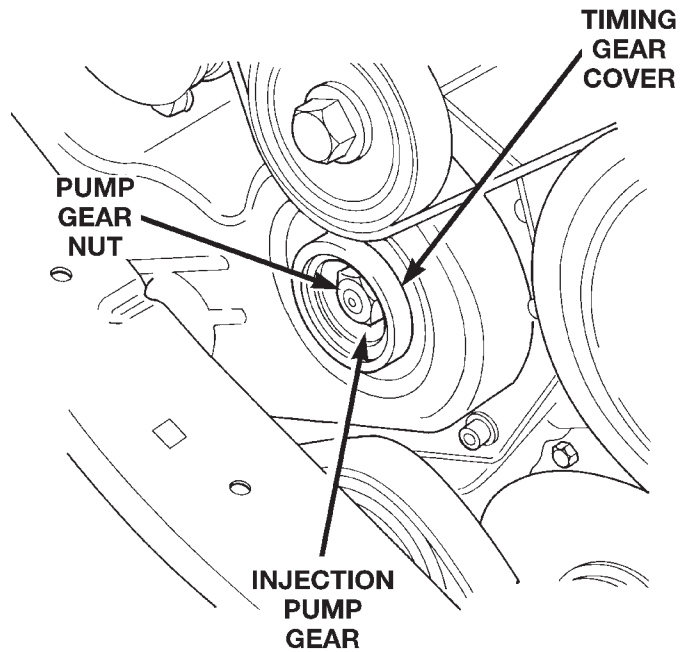

Fig. 41 Removing Pump Drive Gear Nut
(12) Remove injection pump drive gear nut (Fig. 41) and washer. **CAUTION: Be very careful not to drop the washer into the timing gear cover.**